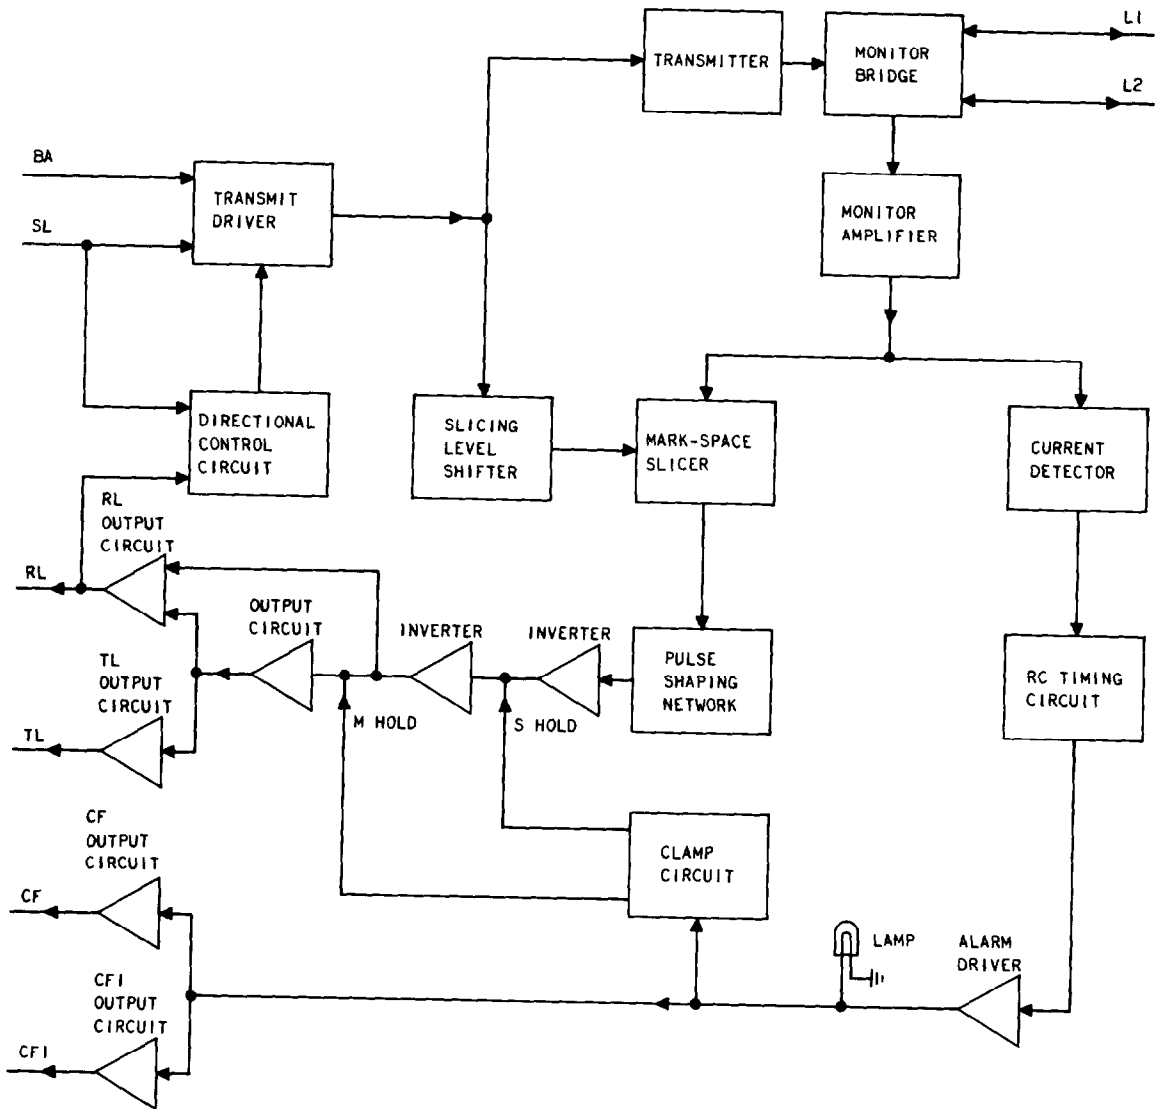

Fig. 5—Data Set 109G-L1—Functional Block Diagram
**3.10** The data signals from the hub interface are applied through the send data lead (SL) of the Data Set 109G to the transmit driver (see Fig. 5). The output of the transmit driver is dependent upon the state of the input from the SL lead and the input from the directional control circuit (see 3.11 for information on the directional control circuit). The output of the transmit driver is fed to the transmitter and slicing level shifter. The output of the transmitter is applied through the monitor bridge and line pads to the metallic loop. The slicing level shifter is employed to maintain a constant slicing level with respect to the loop current when the data set transmitter changes from mark to space or vice versa.